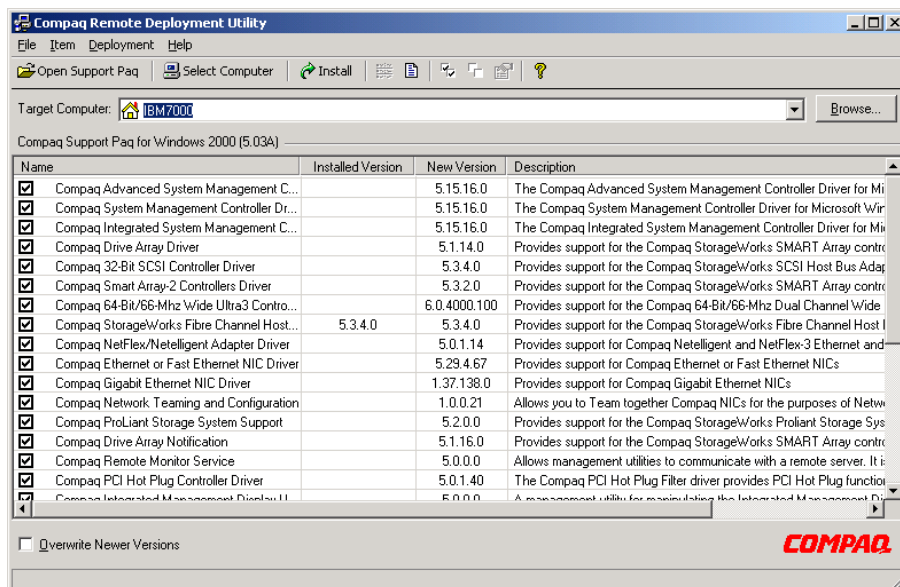

Figure 5-4. Compaq Remote Deployment Utility
5. The Compaq Remote Deployment Utility dialog box appears, as shown in Figure 5-4.